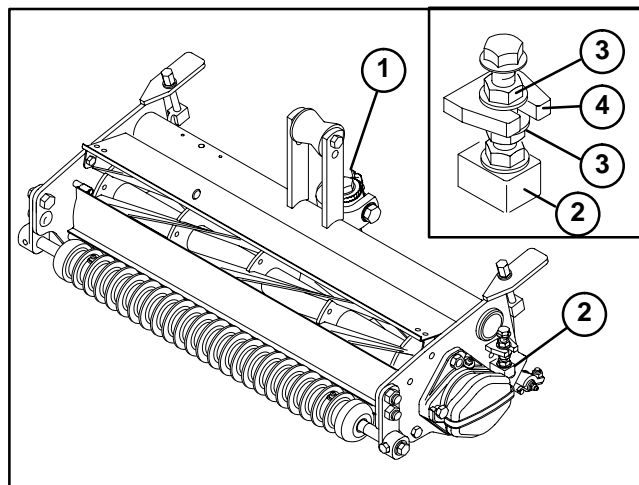
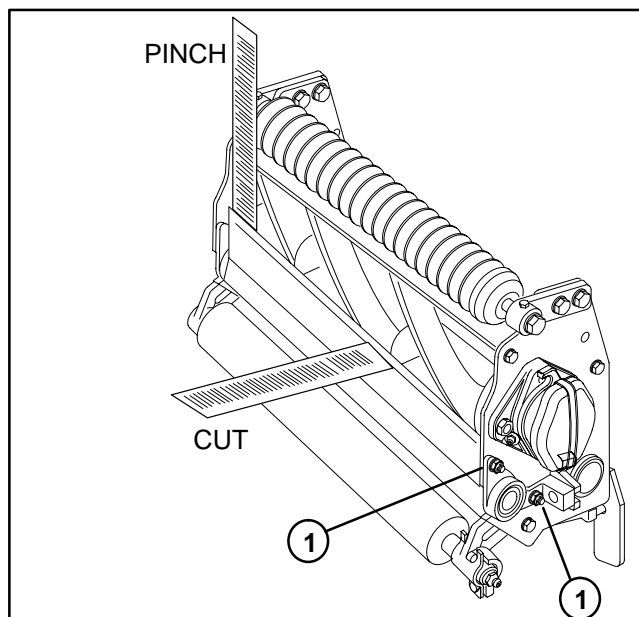

Figure 11
Figure 12
2. Make sure reel contact is removed by turning the bedknife adjustor counterclockwise (Fig. 11).
3. Position cutting unit with the front roller up (Fig. 12).
4. Loosen both flange lock nuts secured to the frame tab (Fig. 11). Also, loosen both flange lock nuts securing the pivot hub to the frame (Fig. 12).
5. Rotate flange lock nuts, on the top and bottom of the frame tab, clockwise or counterclockwise to raise or lower the end of the bedbar, as required. Do not loosen the bottom flange nut tightened against the pivot hub. Tighten both flange lock nuts against the frame tab to secure the adjustment (Fig. 11).
6. Check adjustments by repeating steps 2. and 3. After the adjustments are accomplished, make sure of the following (Fig. 12):
7. When light contact on the paper is evident at each end of the bedknife, tighten flange lock nuts to securely retain the pivot hub (Fig. 12).